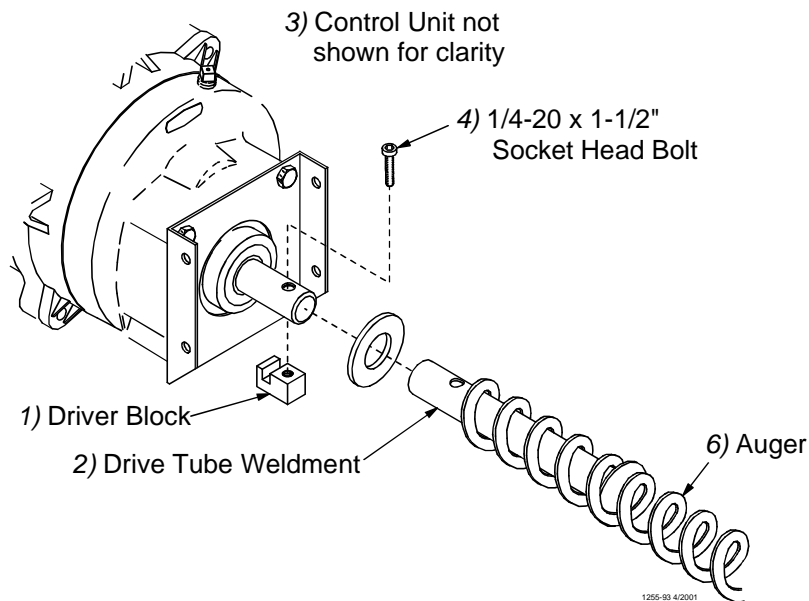

Figure 30. Auger Driver Components
4. Slide the Drive Tube and flat washer over the output shaft on the Power Unit, as shown in **Figure 30**.
6. Turn the Drive Tube Weldment into the auger, then attach to the output shaft of the Power Unit, as shown in **Figure 30**. Use the Driver Block to secure the auger to the Output Shaft.